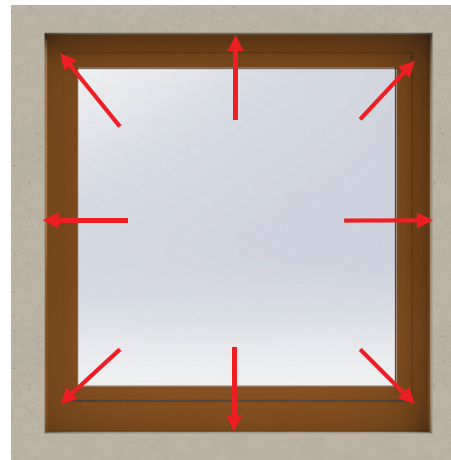

Fig. 19
- I. Apply sealant around the interior perimeter between closer clips and opening and all joints. (Fig. 19)